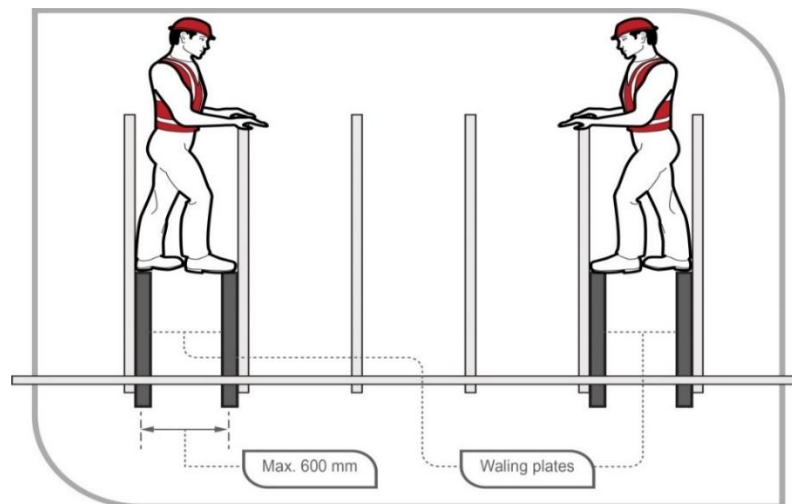

FIGURE 5 SHOWING THE POSITIONS FOR PAIRS OF WALING PLATES.
- Waling plates should be erected in pairs every fourth truss, or as required, to enable adequate access to fixing points for bracing (see Figure 5).